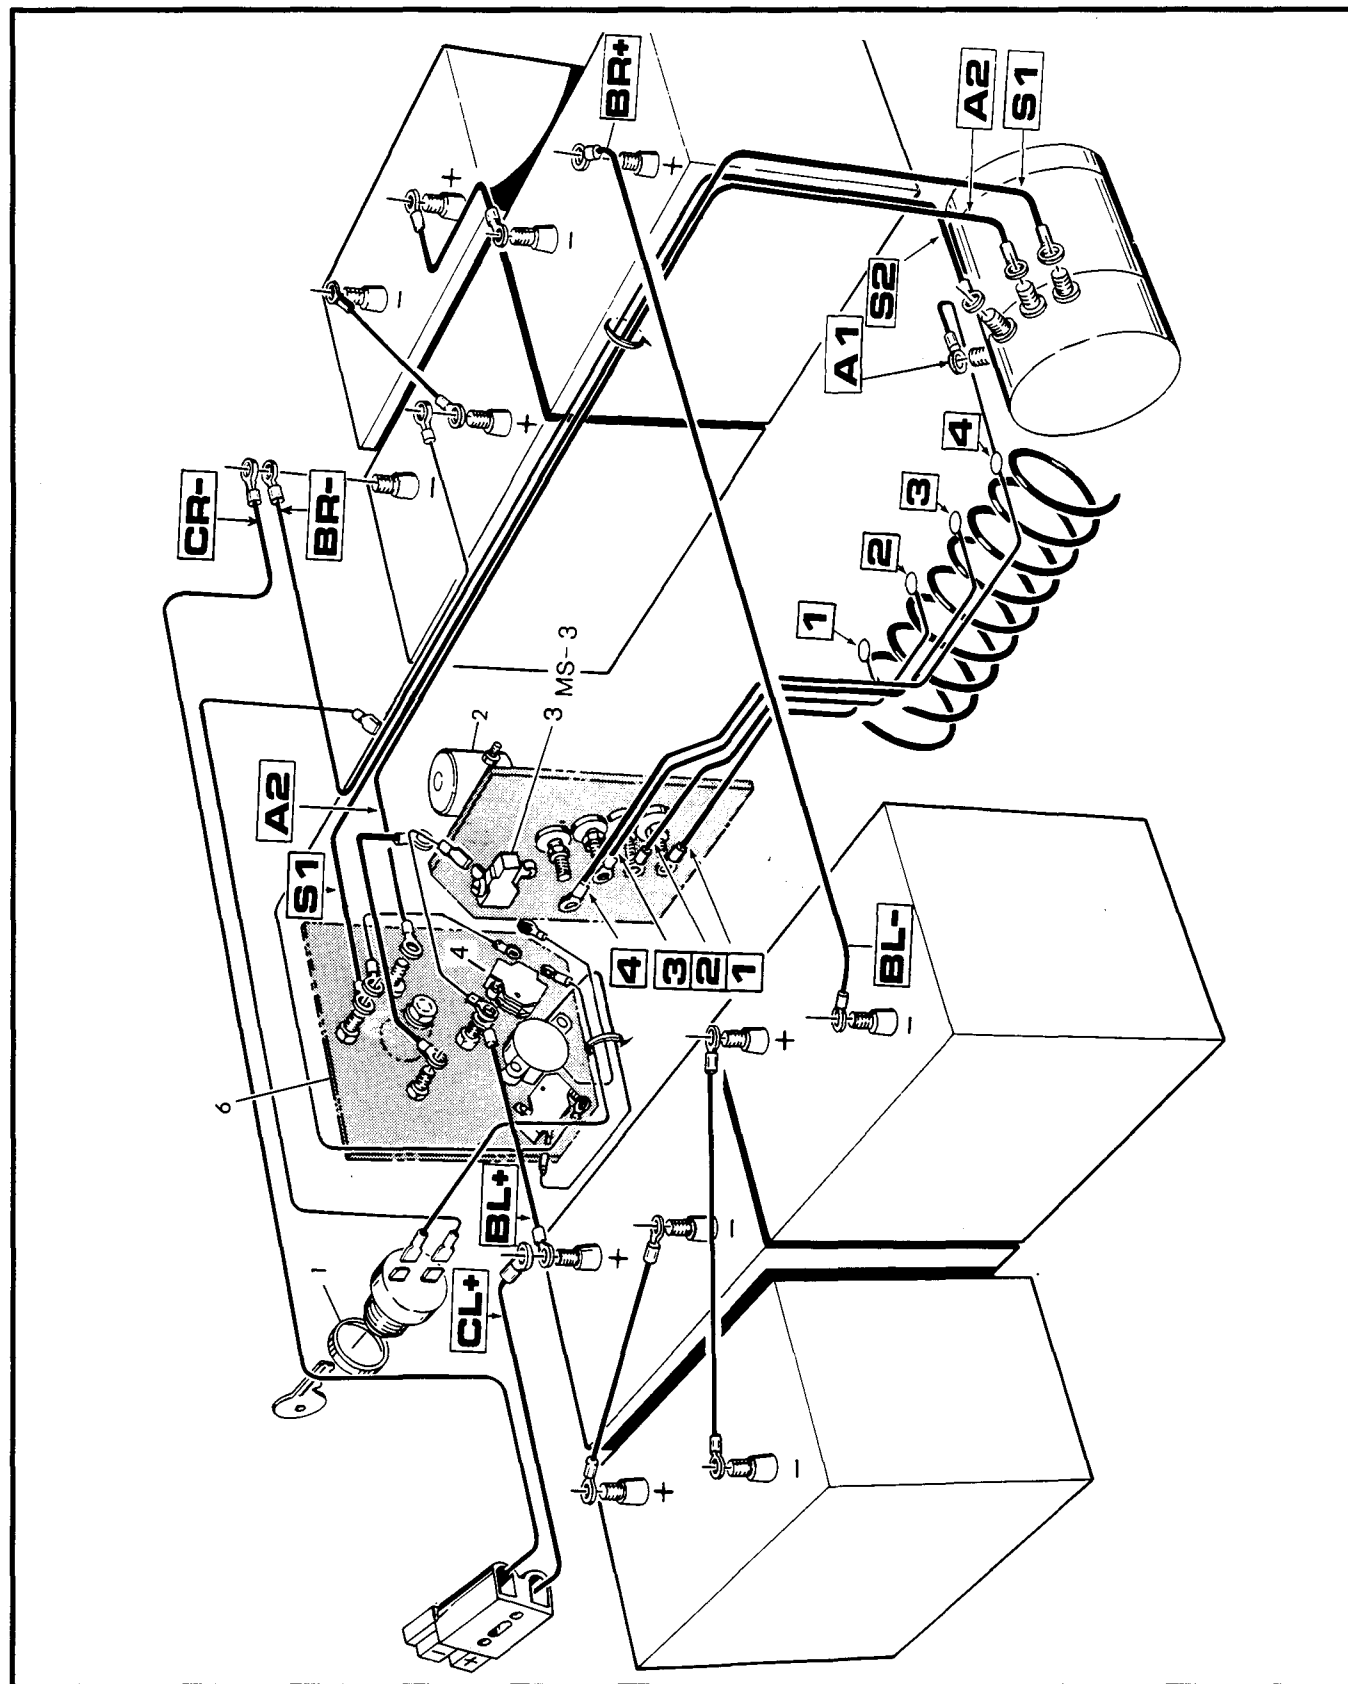
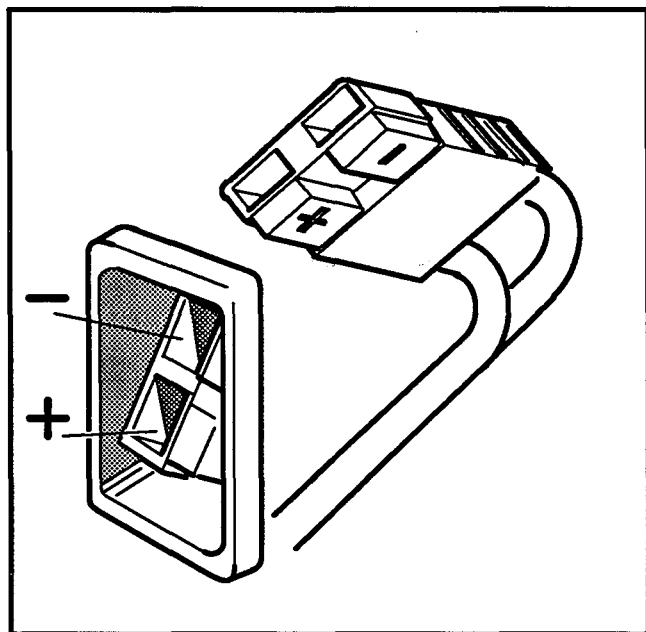
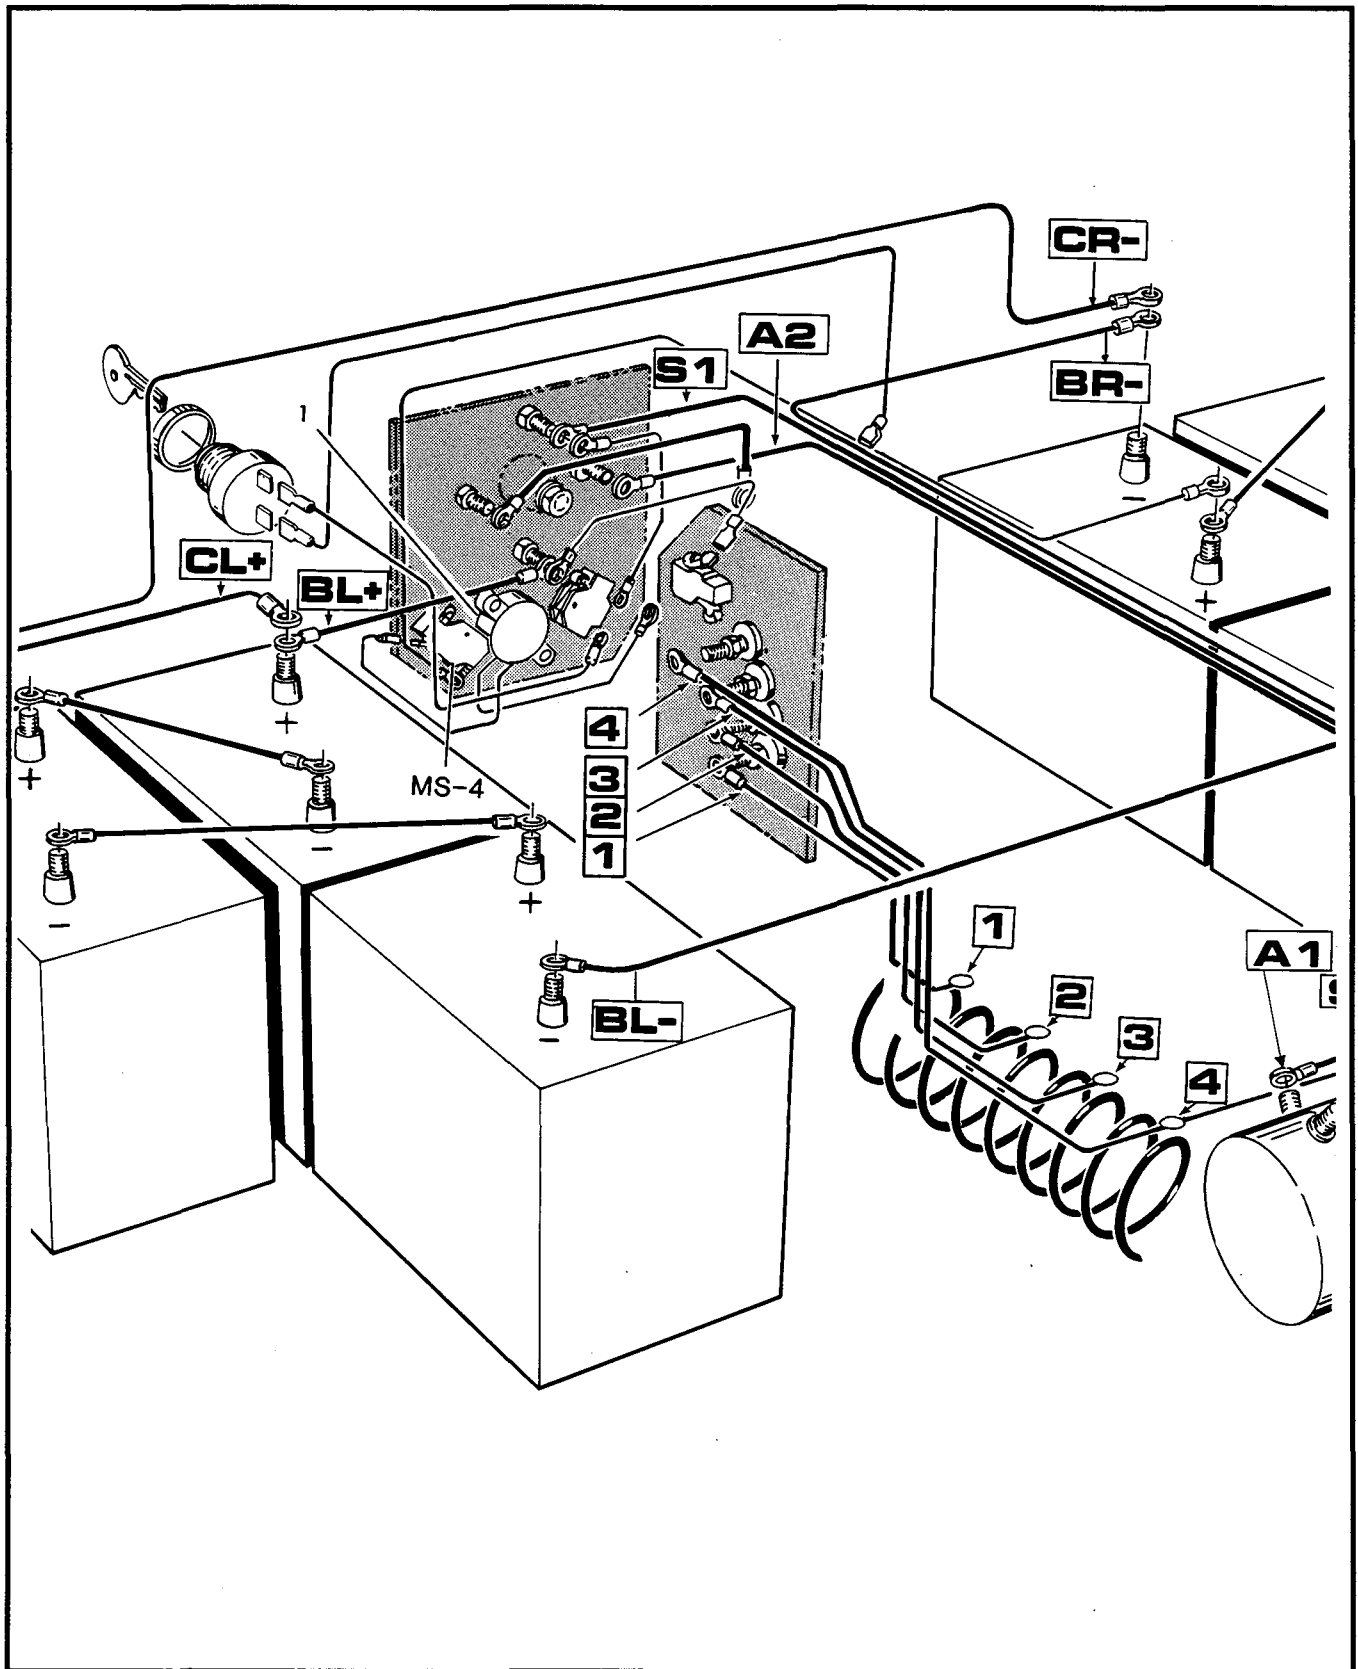
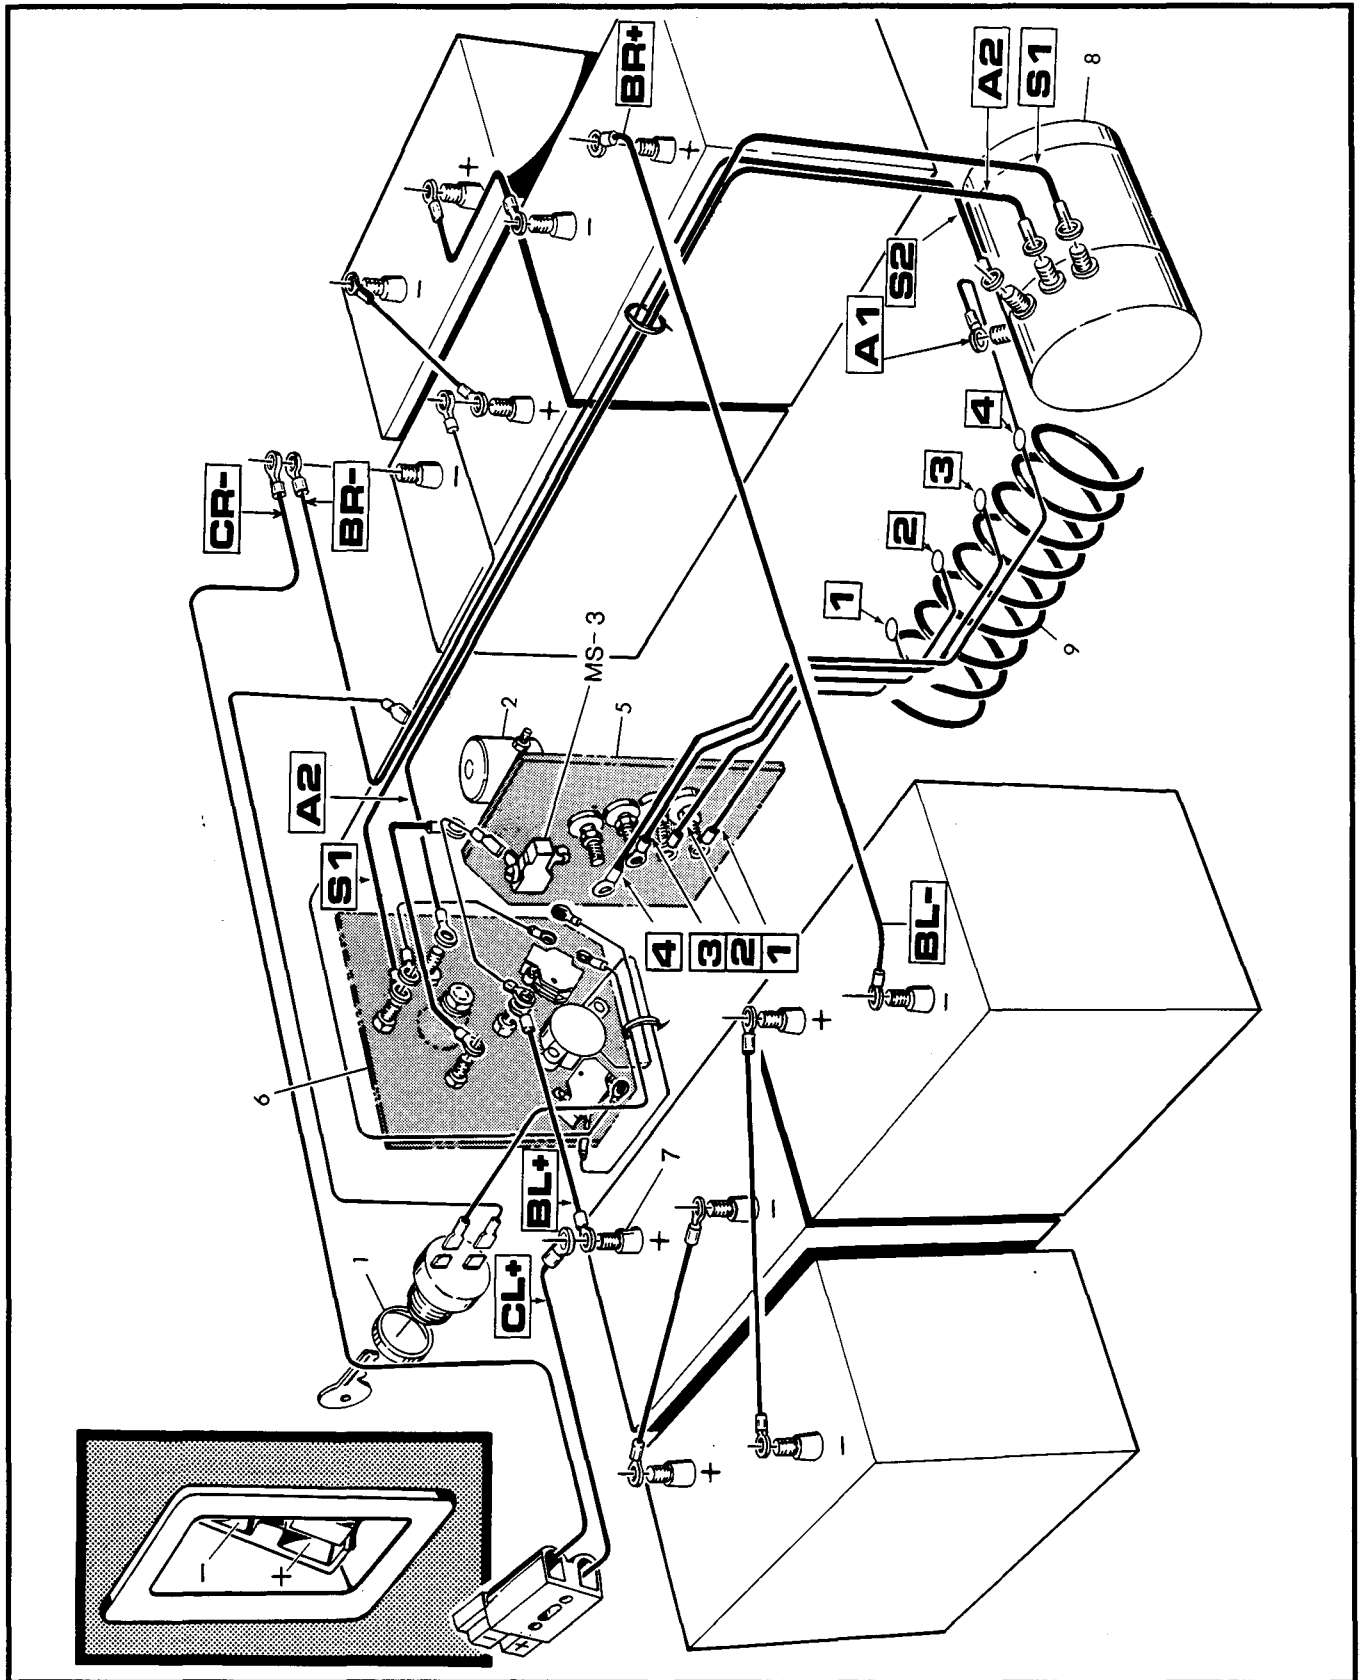

FIG. K-2 POWER WIRING DIAGRAM
FIG. K-3 CHARGING RECEPTACLE
FIG. K-4 WARNING DEVICE
FIG. K-5 POWER WIRING DIAGRAM
CIRCUIT TESTING (FIG. K-2, FIG. K-3, FIG. K-4)
To test the control circuit, turn the key switch (1) to the "ON" position. Set the volt meter to the 50 VDC range. Touch the black probe to the negative (-) contact of the vehicle D.C. receptacle and the red (+) probe to the positive (+) contact of the vehicle D.C. receptacle. (FIG. K-3)
The warning device (1) (FIG. K-4) should sound whenever the forward-neutral-reverse switch is in the "REVERSE" (R) position. Should the warning device fail to sound, the following procedure should be used to trouble-shoot the circuit.
Set the volt meter to the 15 VDC range, check that the key switch in "ON" and the forward-neutral-reverse switch is in the "REVERSE" (R) position. Locate the black probe (-) in the negative side of the vehicle receptacle (FIG. K-3) and place the red (+) probe to the terminal on MS-4 with the black wire. A meter reading of 6 VDC indicates that the black wire between the positive (+) terminal of the front right battery and the micro switch MS-4 is in good condition.
POWER CIRCUIT (FIG. K-5)
Set the volt meter to the 50 VDC range. Touch the black (-) probe to the negative (-) contact of the vehicle D.C. receptacle and the red (+) probe to the positive (+) contact of the vehicle D.C. receptacle (FIG. K-3, FIG. K-5)
TESTING THE MOTOR (FIG. K-5)